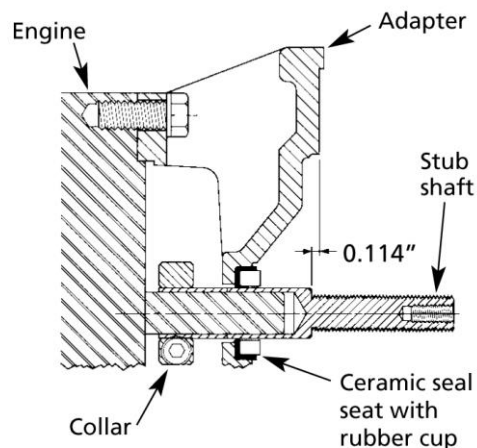

Figure 1 - Mechanical Seal Replacement
Refer to Figures 1 & 2.
2. Stub shaft is to be set so face of shaft is between 0.114" from adapter face (See Figure 1).